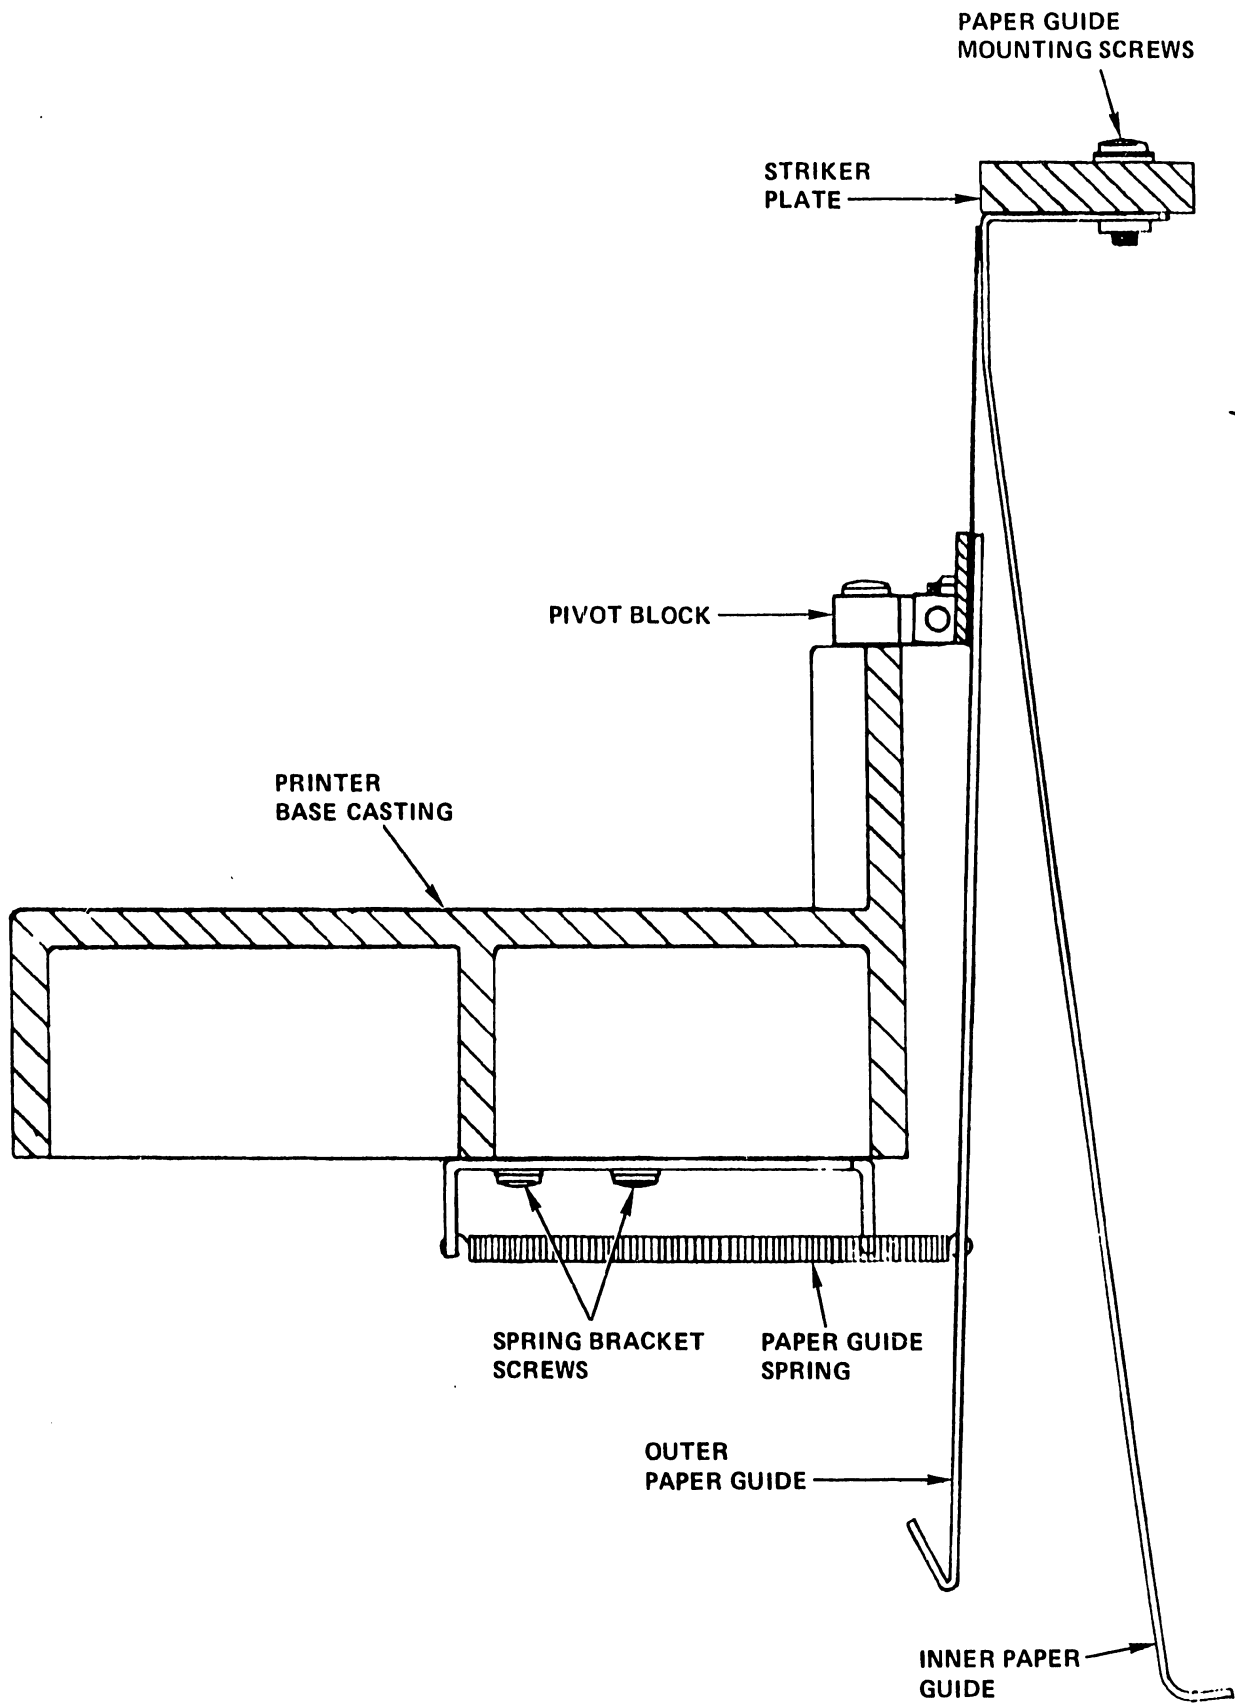

Figure 5-21. Paper Guide
1. Loosen the lock screws on the left and right pivot blocks. See Figure 5-21.
1. Loosen the two retaining screws on the spring mounting bracket (located on the underside of the printer frame). See Figure 5-21.